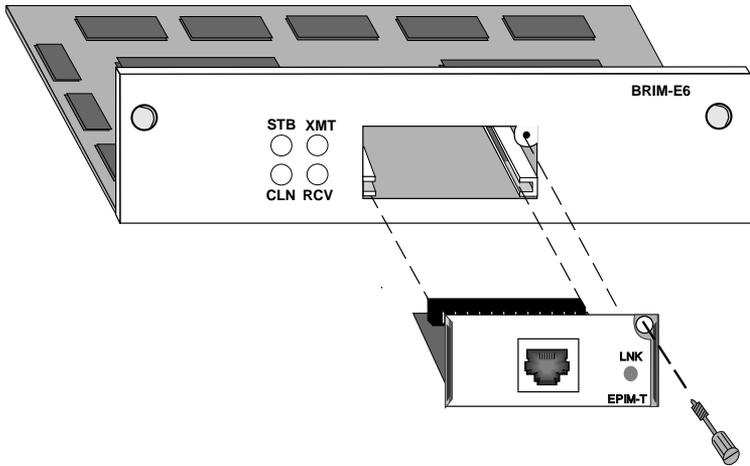

Figure 2-3. Installing an EPIM into the BRIM-E6
1. Slide the EPIM into the BRIM slot. See Figure 2-3.